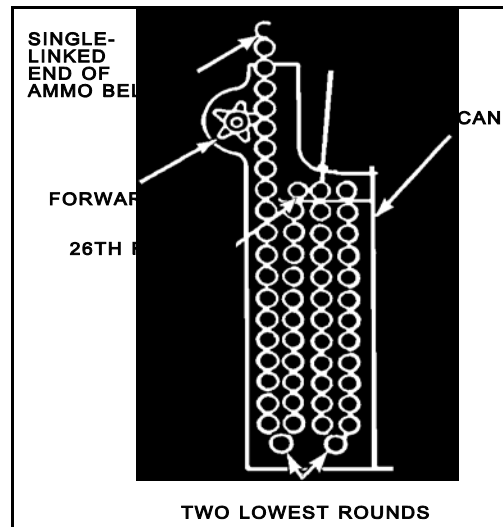

Figure 5. Rounds in forwarder.
7. Load or reload ammunition as required (Figure 5).